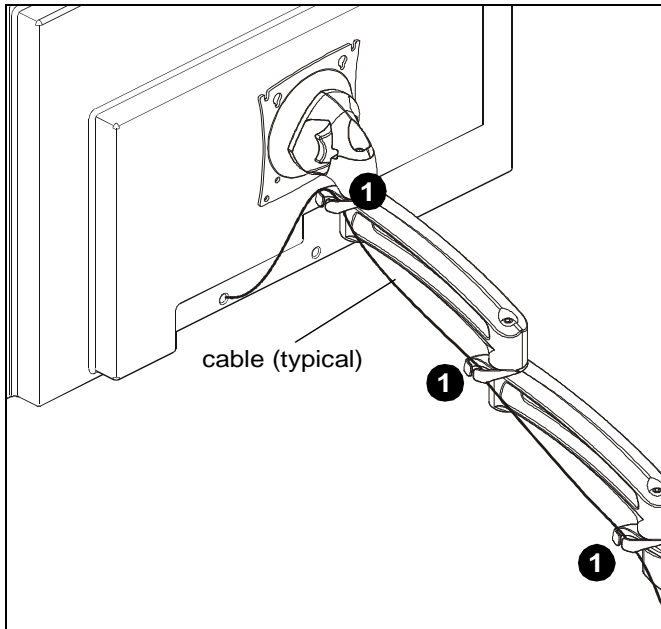

Figure 27
1. Route cables through cable management channels. (See Figure 27)